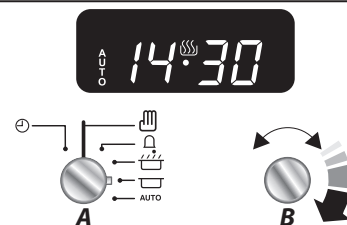

Fig. 4.6
2. Turn the **Adjusting (B)** knob to the amount of cooking time required. The display will show the current time plus the additional cooking time you have set (**Fig. 4.6**).